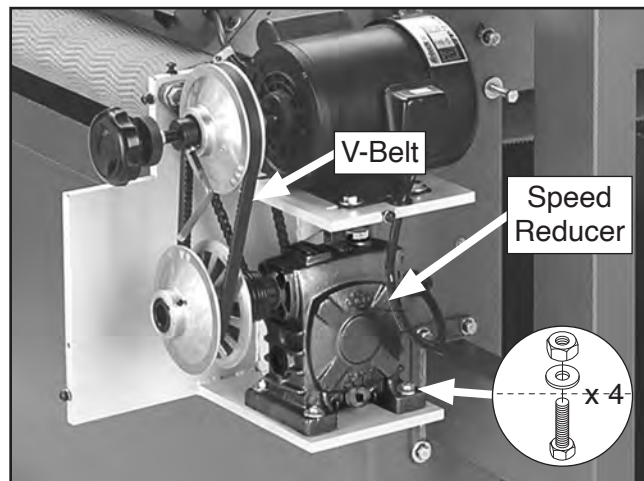

Figure 48. Location of speed reducer fasteners.
3. Remove (4) button head cap screws securing feed motor cover, then remove cover.
4. Remove (4) hex bolts, flat washers, and hex nuts securing speed reducer to mounting plate (see **Figure 48**), then lift speed reducer and remove V-belt.